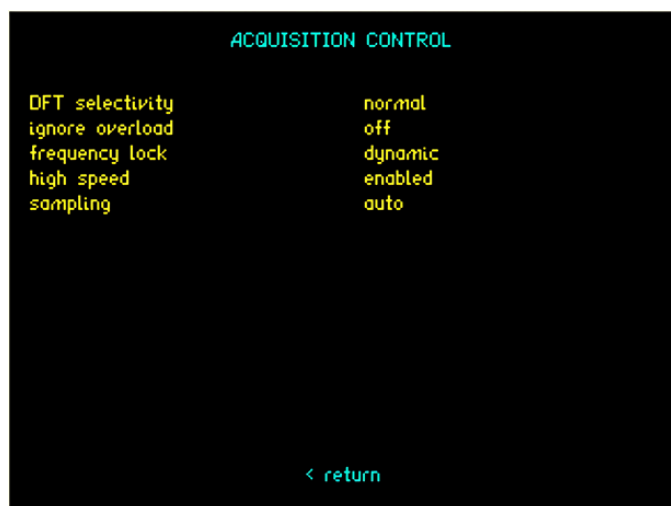

Fig 3
- Similarly set the DC outputs to 10.00 V and 12.00 V, the respective load currents read by power supply unit is 0.094 A and 0.098 A. The captured waveforms are shown in Fig 3 & 4.
**Fig 3 a) Current waveform